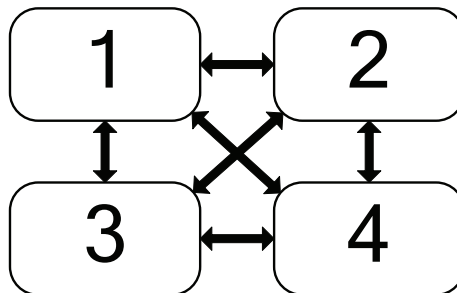

Figure 12-4 Cursor Moving Mode: 2×2
- When two displays are stacked on the other two displays, select “2×2”. You can move the cursor from current display to its neighboring displays, as shown in Figure 12-4.